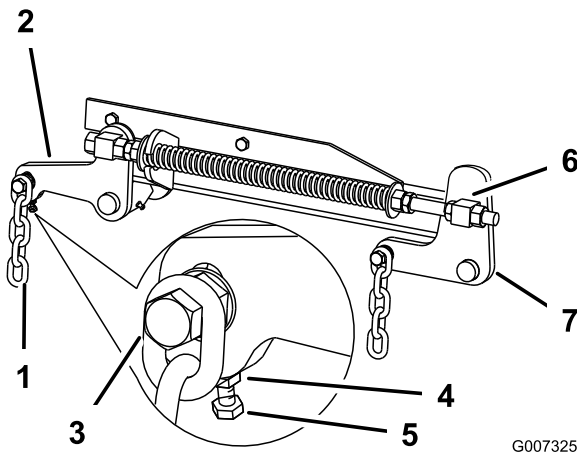

Figure 59
7. If the measurements at positions **B** or **C** are not correct, loosen the bolt attaching the rear chain to the rear support arm (Figure 59).
8. Loosen the jam nut under the rear support arm and adjust the adjustment bolt to get a measurement of 3-1/8 to 3-1/4 inches (80 to 83 mm) (Figure 59).
7. Loosen the front swivel jam nuts, at the front of the right and left swivels, approximately a 1/2 inch (13 mm) (Figure 59).
8. Adjust the lift nuts on both the left and the right side of the machine to achieve 1/4 to 3/8 inch (6 to 10 mm) lower in front at **A** than in the rear at **B** (Figure 59).